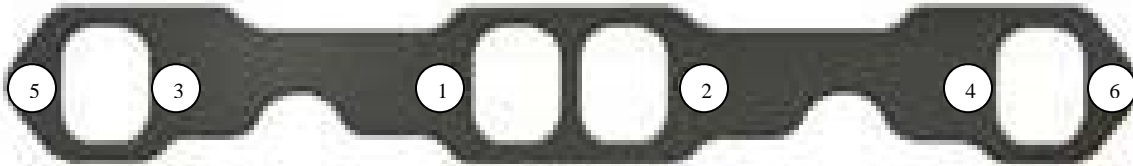

Fig. 1
9. Once all bolts have been partially installed, tighten each bolt in the order in Fig. 1
9. Tighten the remaining bolts in the order shown in Fig. 1.